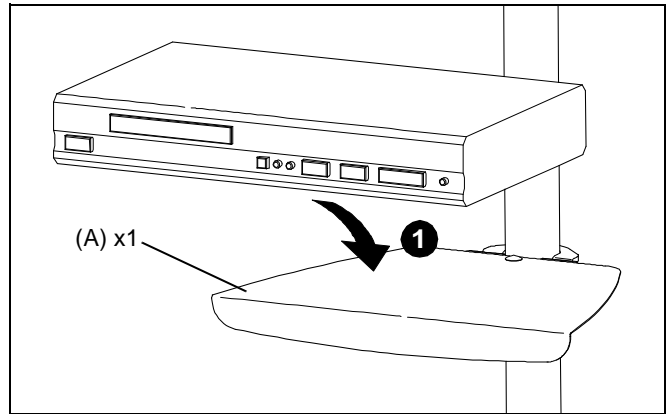

**Figure 3**
1. Align square mounting hole in shelf (A) with mounting hole in top of shelf base (B1 or B2). (See Figure 3)
2. Secure shelf (a) to shelf base (B1 or B2) using one carriage bolt (C) and one lock nut (D). (See Figure 3)